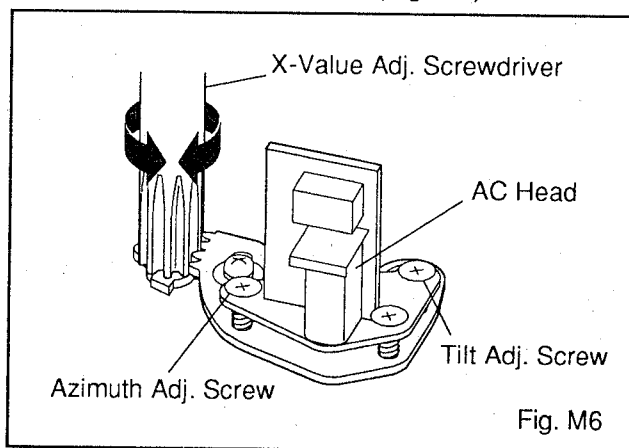

Fig. M6
4. If creasing or snaking is apparent, adjust the Tilt Adj. Screw of the AC Head. (Fig. M6)
4. Use the X-Value Adj. Screwdriver so that the PB FM signal at TP (C-PB) or TP of AUDIO OUT is maximum. (Fig.M6)
3. Adjust Azimuth Adj. Screw so that the output level on the AC Voltmeter or the waveform of the oscilloscope is at maximum. (Fig. M6)